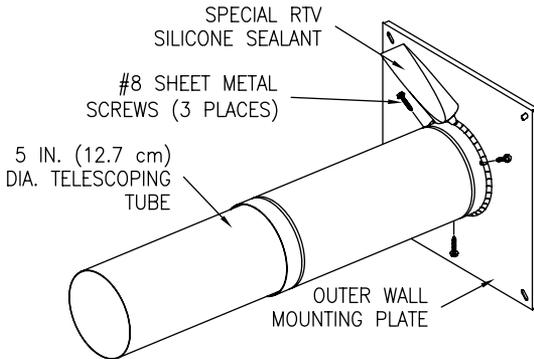

Figure 8
9. Extend the five (5) inch (12.7 cm) diameter telescopic tube to its maximum length. Place the large end of the five (5) inch (12.7 cm) diameter telescopic tube over the collar on the outer wall mount plate. Drill three (3) 1/8 inch (3.0 mm) diameter holes, 120° apart, through the five (5) inch (12.7 cm) diameter telescopic tube into the collar on the outer wall mount plate. Fasten with three (3) #8 sheet metal screws (supplied). Using the supplied special RTV silicone sealant, apply a sufficient amount to seal the joint (See Figure 8).